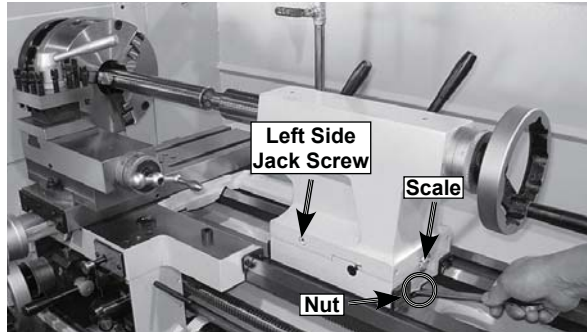
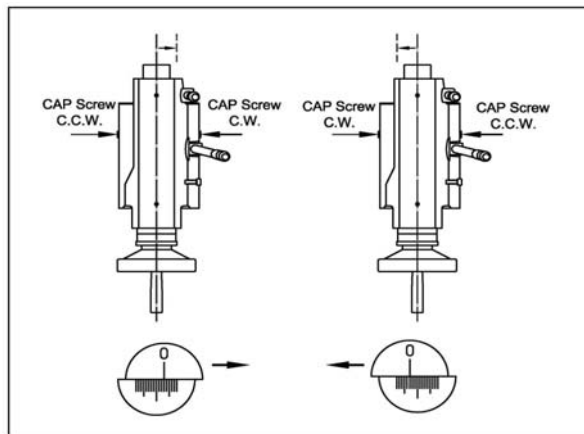

Figure 35. Tailstock offset adjustments.
Figure 36. Jack screw adjustment versus tailstock movement.
- Loosen two nuts of bottom, adjust the left and right jack screws until the scale (Figure 35) indicates the offset you want. See Figure 36 for adjustment direction.